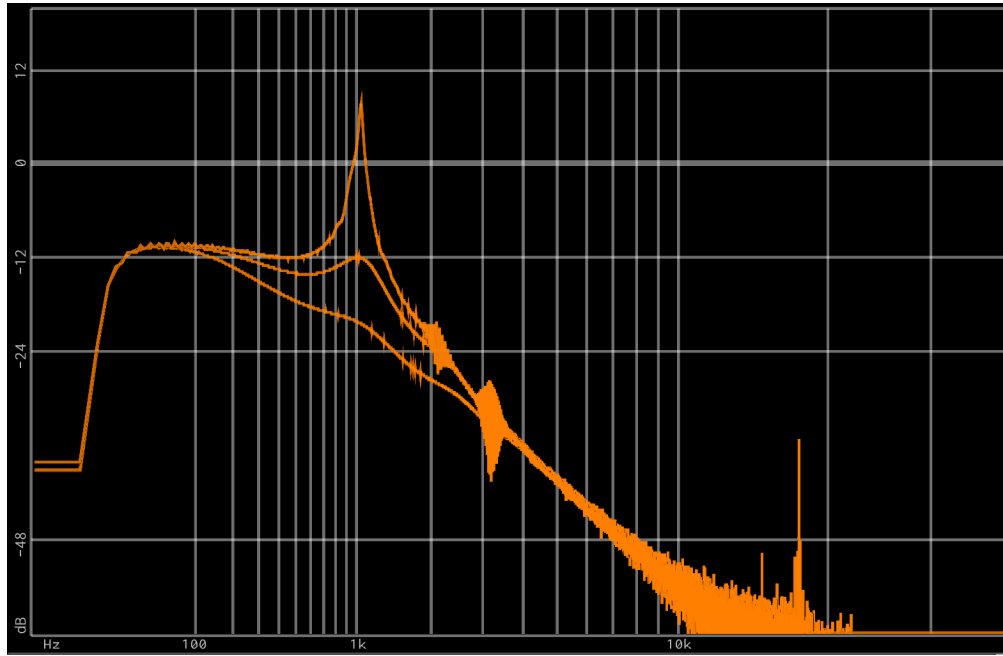

fig 4.2 Frequency Response Diagram
- b. Touching the PCB while adjusting the trimmer **will** cause instabilities in the module. While it won't cause damage in the module, but will make adjustment more difficult. It is recommended to hold the panel or place the module upside-down on the rack (see fig 4.2) while adjusting.
Fig 4.2 shows the frequency response of the filter measured by the Bogaudio Ranalyzer (VCVRack). The **FREQUENCY** knob was set at noon, which had a cutoff frequency of around 1.05kHz . The 3 contour lines show 3 different resonance settings, which are, from low to high, 0 resonance (**RESONANCE** fully counterclockwise), medium resonance, and high resonance (right before self-oscillation)².